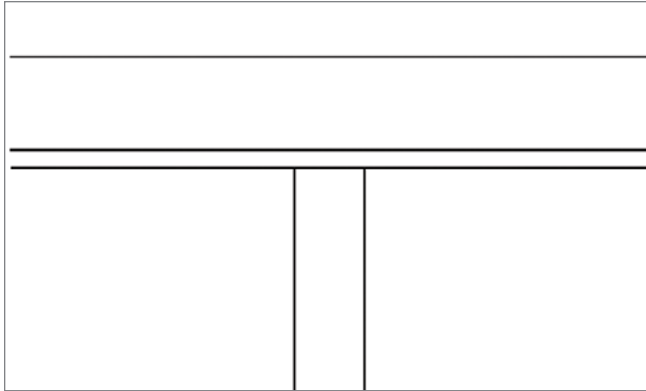

FIGURE 12.64 The detail up to this point
18. Compare your lines with the lines in Figure 12.64.